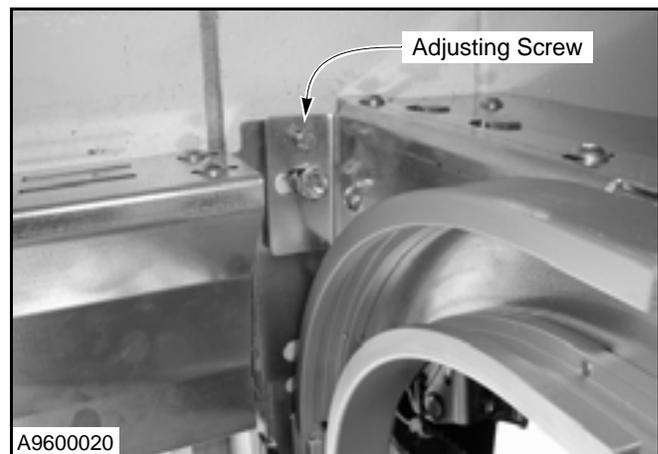

Figure 84
3. To put the horizontal guide rail system into alignment, turn the adjusting screw, as required, to square the rail system. (See Figure 84.)